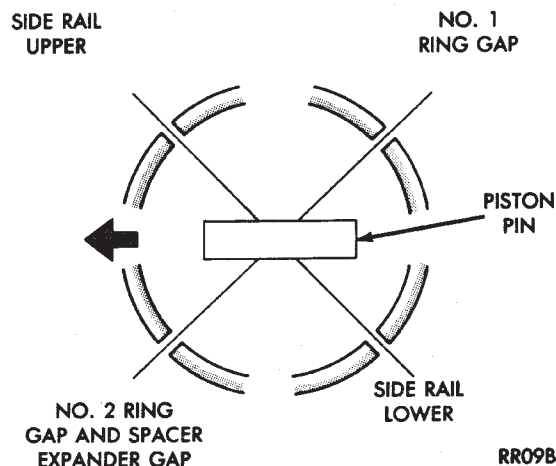

Fig. 12 Piston Ring End Gap Location
(10) Position piston ring end gaps as shown in (Fig. 12).